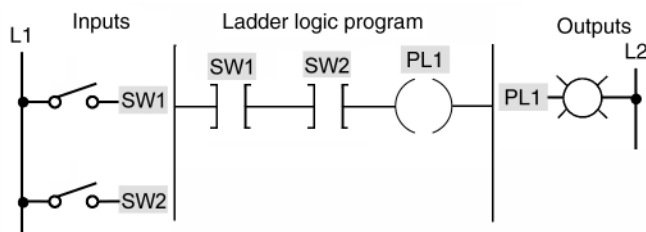

Figure 2-16 Program for assignment 3.
3. (a) Program your controller to operate according to Figure 2-16.